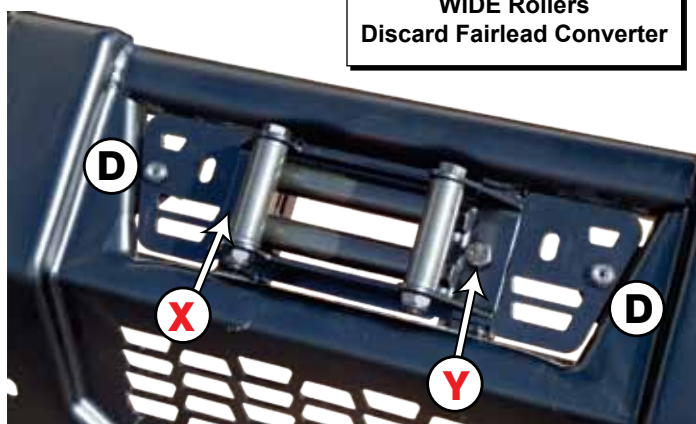

Figure 5.
8. Install replacement grill to bumper as shown in Figure 5&6 using original Torx screws (D). Do not fully tighten.
9. Install your fairlead to grill & bumper assembly as shown in Figure 5&6, using hardware provided with your winch. Pass bolt (X) through fairlead, grill, converter bracket (if required), and bumper frame rails, then tighten. If using Converter bracket install bolt (Y) directly to the grill & fairlead. Use one 5/16" Hex Bolt and Flange Nylock Nut from hardware kit to fasten grill to bumper frame at location (Z).